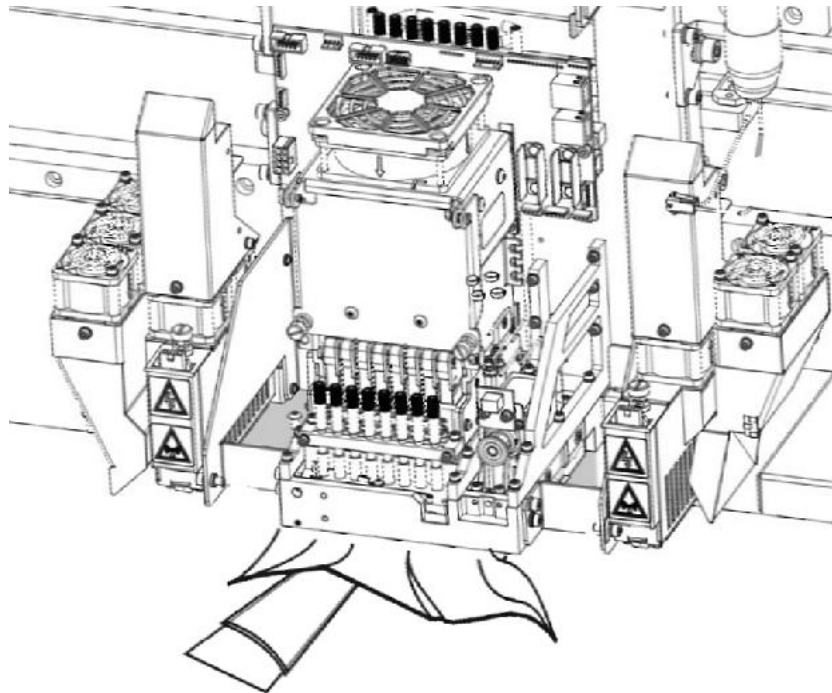

Figure 6-19: Cleaning the heads
9. Clean the orifice plates, with a back-and-forth motion (see figure 6-19). Use the mirror to make sure that you have removed all of the residue material.